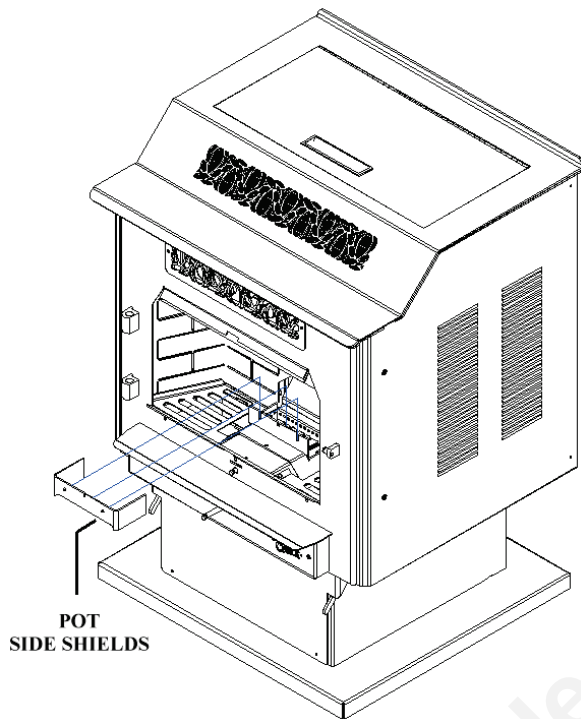

Figure 1
**When burning pellets or any other fuels *mixed with pellets*, the side shields must be removed.** Failure to remove the side shields will prevent fuel from spilling into the Ash Pan in the event the pot overloads. See figure 1 showing the removal of the side shields. The shields lift up and are removed without needing any tools.
**When burning cherry pits or any other fuels *mixed with cherry pits*, the side shields must be removed.** Failure to remove the side shields will prevent fuel from spilling into the Ash Pan in the event the pot overloads. See figure 1 showing the removal of the side shields. The shields lift up and are removed without needing any tools.
**When burning Distiller's Grain pellets or any other fuels *mixed with Distiller Grain Pellets*, the side shields must be removed.** Failure to remove the side shields will prevent fuel from spilling into the Ash Pan in the event the pot overloads. See figure 1 showing the removal of the side shields. The shields lift up and are removed without needing any tools.